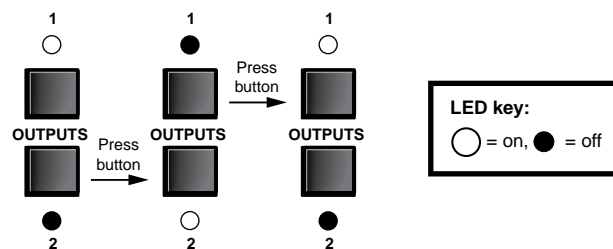

Figure 13. Output Selection Cycle
- ② **Output 1 and Output 2 buttons** — The Output 1 and Output 2 buttons select output 1 or output 2. Press an output button to select that output and automatically deselect the other output (see figure 13).
Output 1 and 2 LEDs — The Output 1 and Output 2 LEDs indicate the output that is selected (see figure 13). Only one Output LED can be lit at a time.